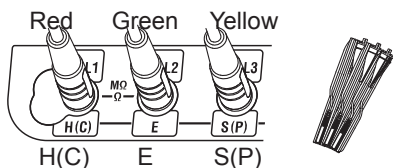
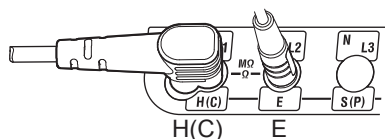

Fig.12-2 For 3W test (Precise measurement)
Fig.12-3 For 2W test (Simplified measurement)
- (1) Press the Power switch and turn on the instrument. Turn the rotary switch and set it to the EARTH position.
- (2) Press F1 switch to select 3W (3-wire precise measurement) or 2W (2-wire simplified measurement).
- (3) Connect the test lead into the instrument. (Fig. 12-2, Fig. 12-3)